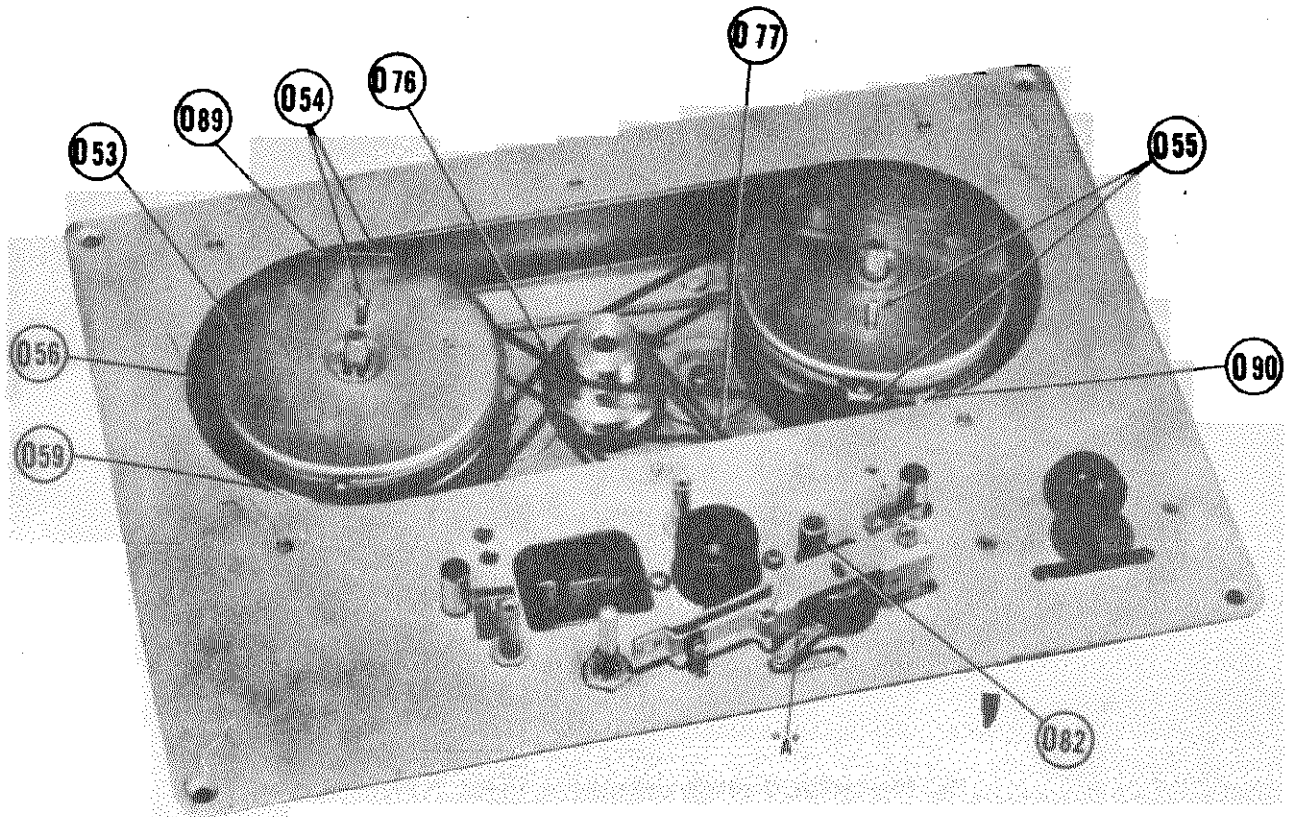

Fig. 8—Reeling Mechanism—Reels Displaced
2. Rubber belts (O-76 & O-77 Fig. 8) couple the drive pulley to the capstan assembly and the reeling mechanism. The smaller belt (O-77) drives the capstan and the larger belt (O-76) drives the reels.
3. A small diameter capstan (O-82 Fig. 8) attached to a pulley and a balanced flywheel provide a constant drive speed for the "Magic Ribbon". The capstan revolves in two bearings which are of the "Oilite" type and require very little additional lubrication. The bottom bearing is of the self-aligning type.
The reeling mechanism consists of two turntables (O-53) and two clutch assemblies (O-56 and O-58) mounted on the two reel shafts (O-57), and two pulleys (O-59) mounted on bearings (O-63), all of which are driven by the motor (B-1) through the rubber drive belt (O-76, Fig 8).
The two triggers (O-54 and O-55) are for the purpose of tripping the automatic control levers (O-89 and O-90 Fig. 8) respectively.